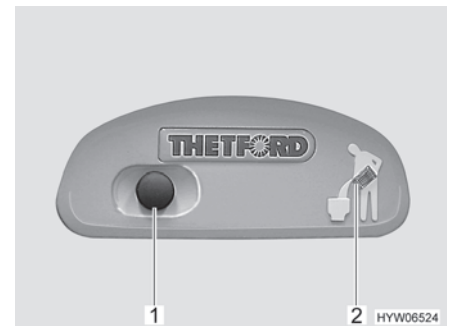

Fig. 179 Flush button/indicator lamp Thetford toilet
- For flushing, press the blue flush button (Fig. 179,1).
The indicator lamp (Fig. 179,2) goes on whenever the Thetford cassette has to be emptied.